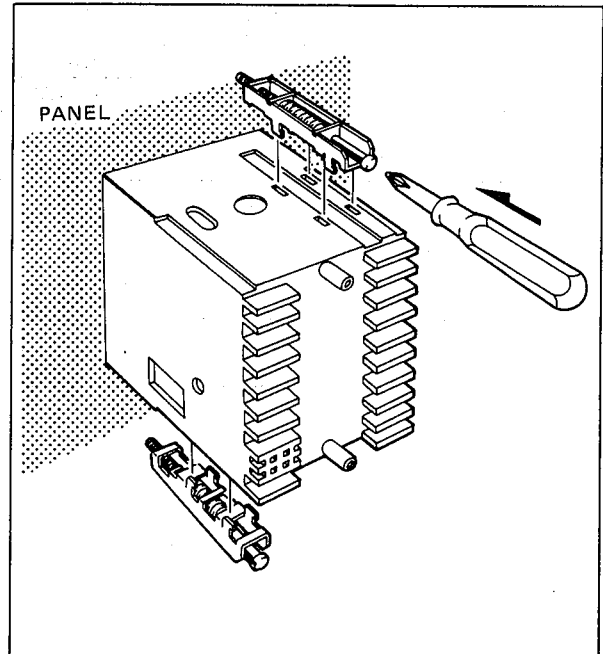

Fig. 3
2. INSTALLATION METHOD (Fig. 3)